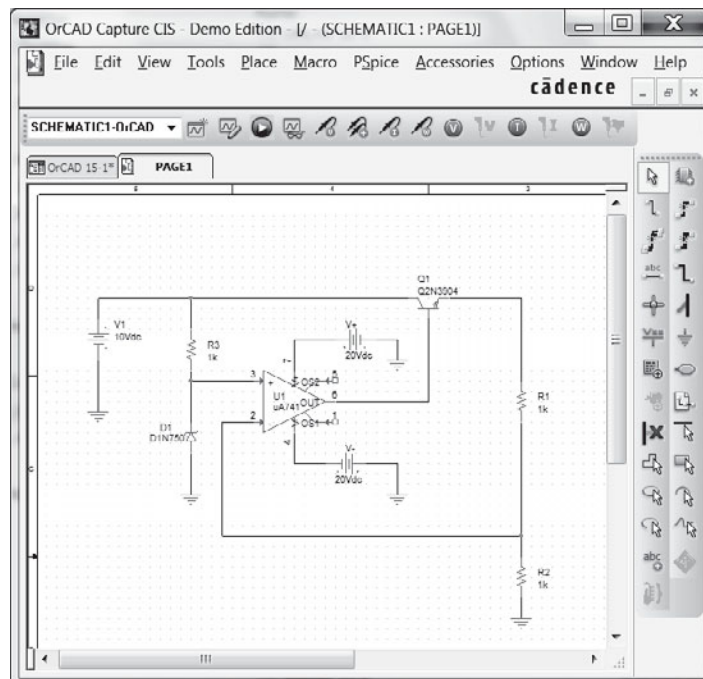

FIG. 15.38
The op-amp series regulator circuit of Fig. 15.16 can be analyzed using PSpice, with the resulting schematic drawn as shown in Fig. 15.38. The **Analysis Setup** was used to provide
- *28. Modify the circuit of Fig. 15.38 to include a load resistor R_L . Keeping the input voltage fixed at 10 V, do a sweep of the load resistor from 100 Ω to 20 k Ω , showing the output voltage using Probe.